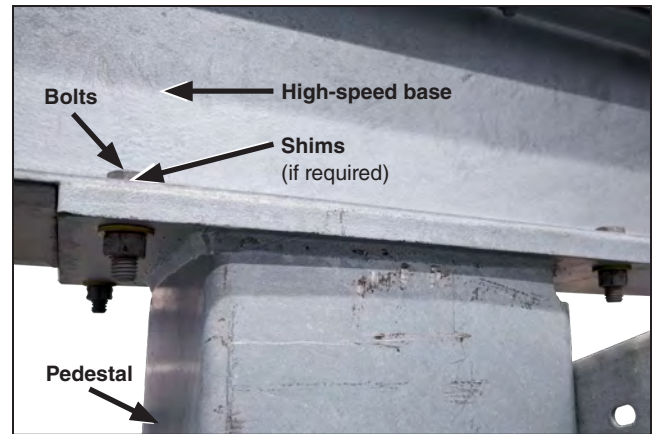

Figure 6. Shim under the high-speed base for gaps of more than $\frac{1}{8}$ -inch.
STEP 4. Securely bolt the high-speed base to the mounting pedestals. Shims are furnished and should be installed as necessary between the high-speed base and the mounting pedestals to compensate for any irregularities greater than $\frac{1}{8}$ -inch (3 mm) between the mating surfaces. See Figure 6.